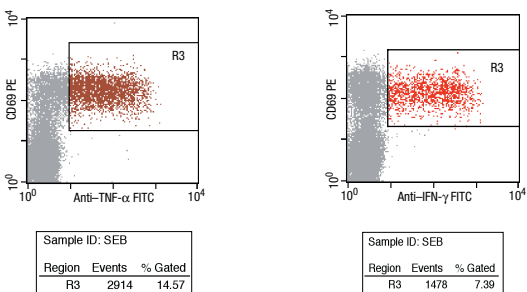

Figure 3 SEB-activated control, R1 and R2 gated
5. To obtain statistics, draw a region around the CD69 and cytokine double-positive events in a positive control sample (Figure 3), and apply this region to your sample files. A different region might be needed for each cytokine. The % gated statistic gives frequency of cytokine-producing CD4⁺ cells.